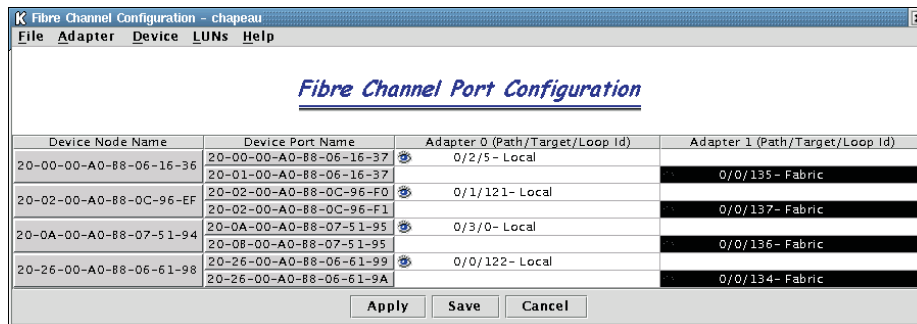

Figure 78. Fibre Channel Port Configuration window
5. Select CONFIGURE. You will then be presented with the Fibre Channel Port Configuration dialog box (see Figure 78).